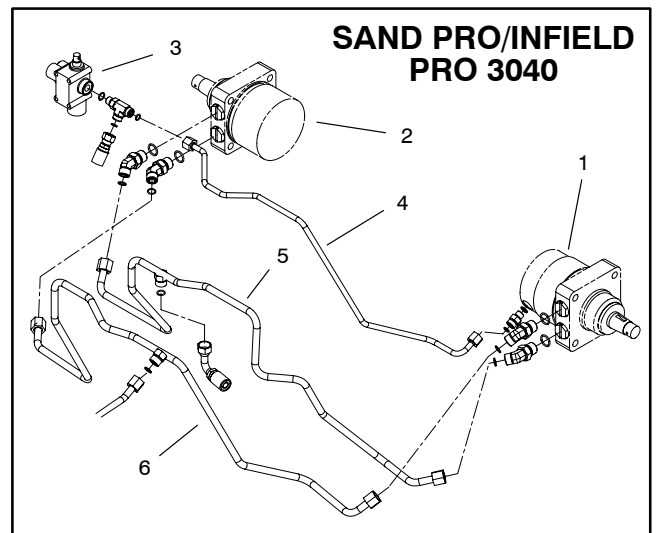

Figure 37
3. Secure motor and brake bracket to frame with four (4) cap screws and lock washers.
7. Position new o-rings and connect hydraulic lines to fittings on rear wheel motor (Fig. 37 and 38). Use labels placed during the removal process to properly install hydraulic lines to wheel motor.